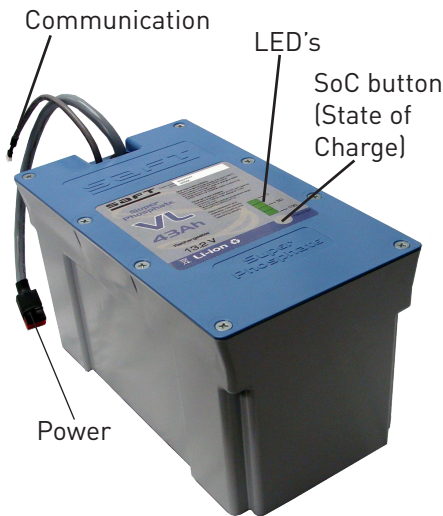

Figure 1 - 12V Super-Phosphate® battery top view
If smoke is emitted from a unit, stay clear of the smoke and evacuate the area until the smoke dissipates. See Figure 1 for operator interface features.
If long storage is planned, check and note the SOC (State of Charge) according to Figure 1 and Table 2. An access panel in the packaging allows you to access the unit without removing it from the box.
**IMPORTANT:** It is mandatory to check the SOC while in storage every 6 months. If <25%, charge as soon as possible. See Figure 1 and table 2.
See Figure 1 for 12V Super-Phosphate battery features.
The SOC can be checked while in operation. Refer to Figure 1 and Table 2.